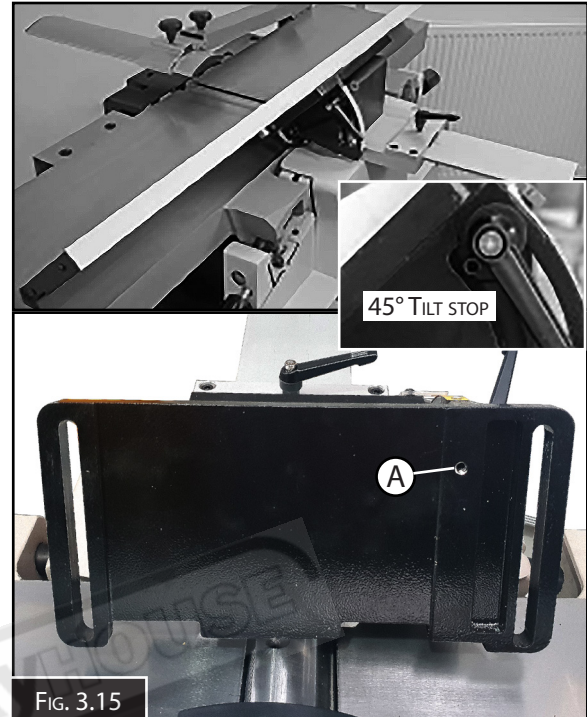

FIG. 3.15
1. Set the fence to 45° degrees by loosening the tilt clamping handle as before, place a mitre square up against the fence and check the angle with the outfeed table. Adjust the fence until correct and nip up the tilt clamping handle. Check that the pointer is at the 45 degree mark on the scale and the fence mechanism is against the 45° dead stop. (Fig.3.15)
3. With the fence mechanism clamped at 45° remove the fence to access the stop screw. ("A" in Fig.3.15)